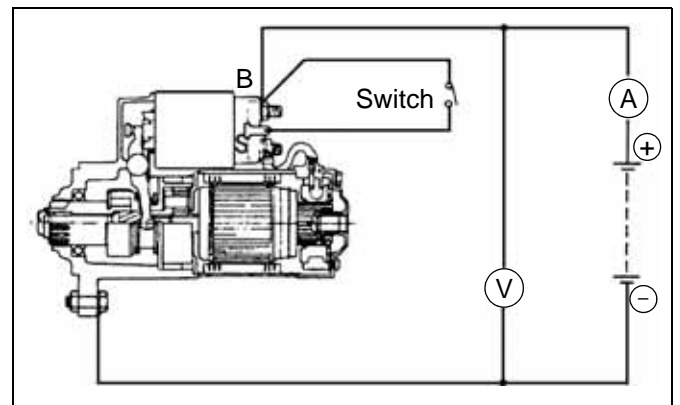

Fig. 5-36
1. After adjusting pinion position, from a test circuit with a voltmeter and an ammeter, as shown in page 5-17, Fig. 5-36.